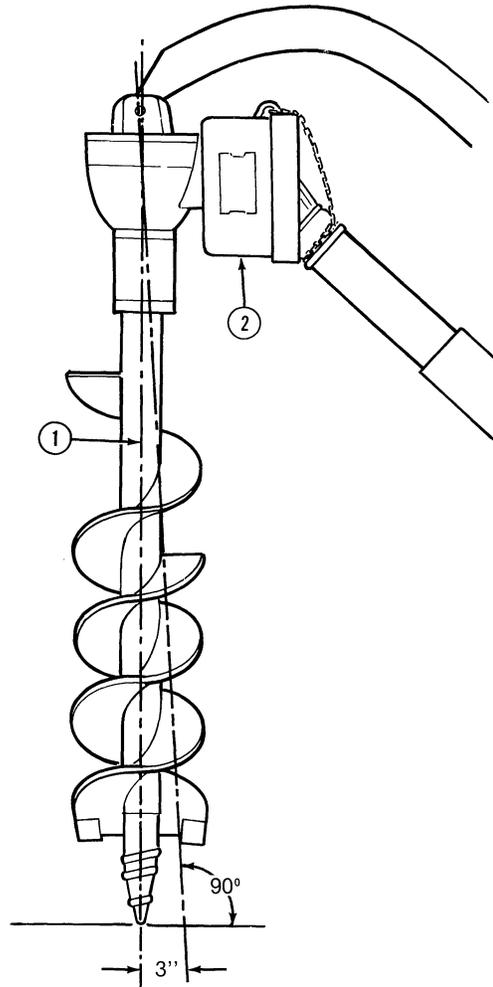

Figure 13
1. Position the post hole digger so the auger is approximately vertical: position can range from vertical to digging position, Figure 13. The auger should not lean away from the tractor.
Place the auger point at the desired location of the first hole. Drive the tractor forward to create an angle 3" (76 mm) back from the center of the gearbox, as shown in Figure 13. As the auger works into the ground, the slight angle will straighten due to the pivoting action of the boom.